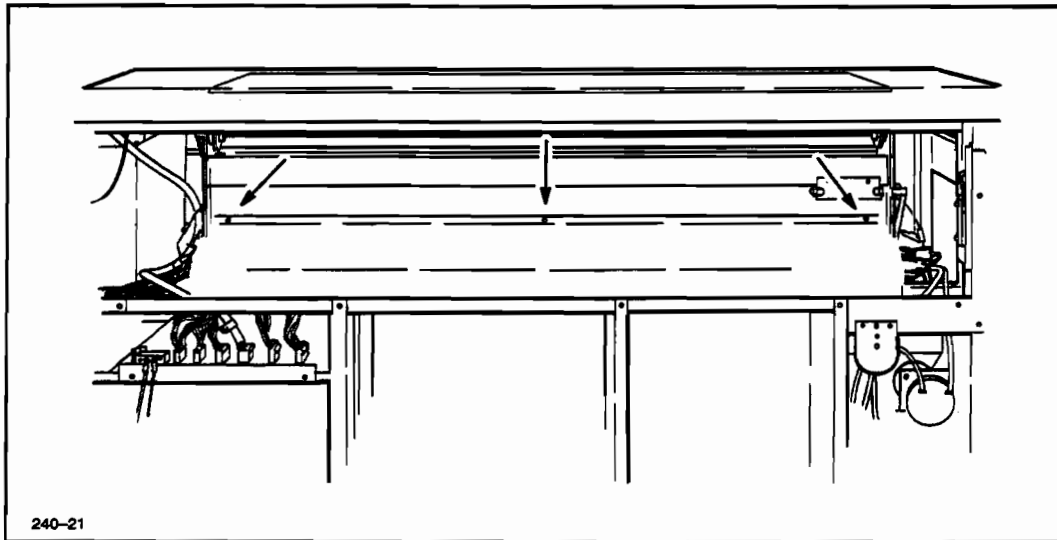

Figure 6-10. Rear PCA Shield Removal
1. Switch the plotter OFF (O) and disconnect the ac power cord and interface cable.
3. Using a #2 Phillips screwdriver, remove the five PCA shield mounting screws. See Figure 6-10.
4. Using a #2 Phillips screwdriver, remove the mounting screws and remove the front panel as shown in Figure 6-10.